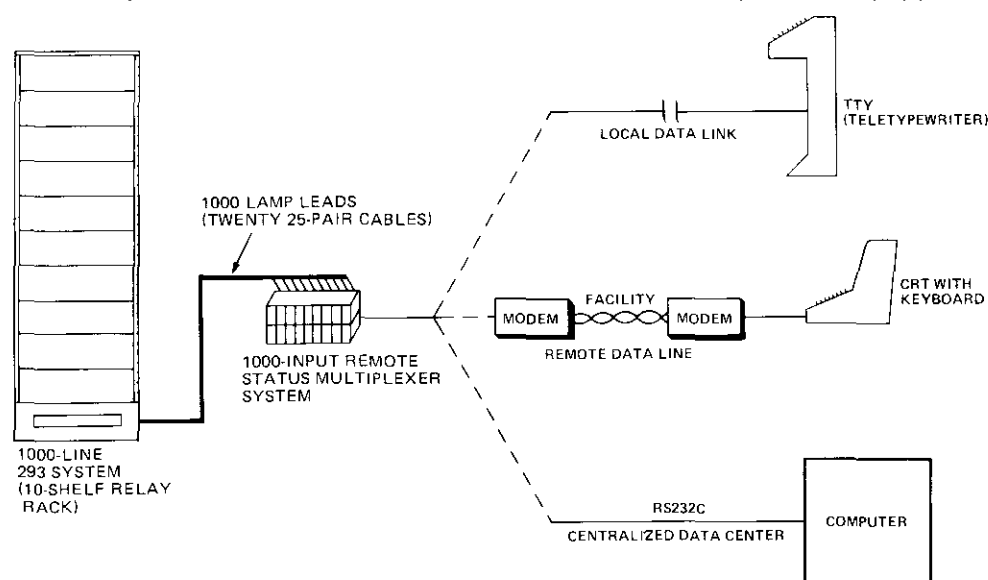

figure 11. Three typical remote status multiplexer applications
3.15 In applications that require answer-lamp indications at a remote location or require the answer-lamp information to be analyzed by data-processing equipment, Tellabs can supply a remote status multiplexer (RSM) system. Figure 11 shows a typical application of this system. The RSM system can also be used to activate the 293 System if the System is equipped with a two-way communication